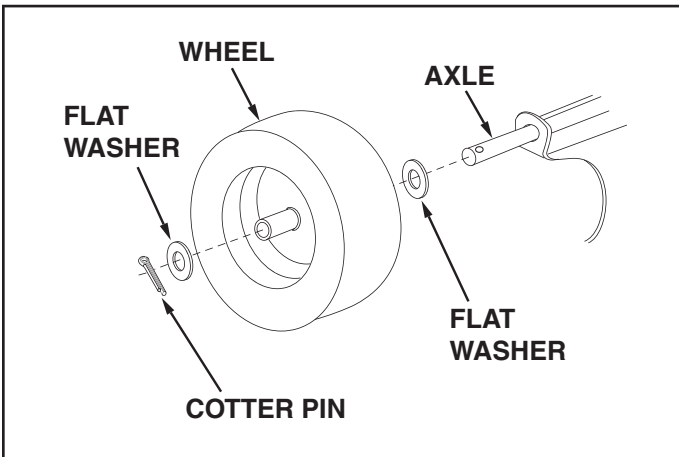

FIGURE 3
- Assemble a flat washer, a wheel with the valve stem facing out, and another flat washer onto the axle as shown in figure 3. Secure the wheel on the axle with a cotter pin, spreading the ends. Repeat on other end of axle.